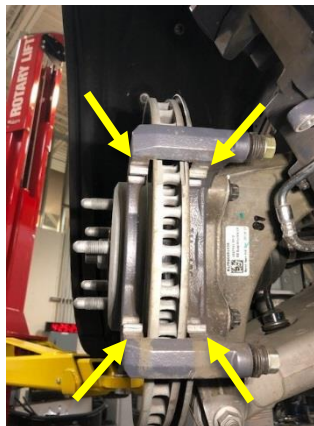

Figure 22 (Abutment flats, Model X shown, other models similar)
29. Use the brush and Tesla-approved brake cleaner to clean the abutment flats, the piston faces, the inner surfaces of the rear LH caliper and rear LH carrier, and the brake pad edges and surfaces that contact the caliper or carrier (as applicable) (Figure 22).